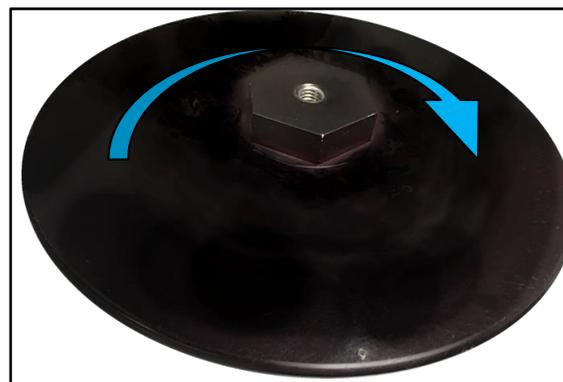

Figure 2-26. VariStroke Cover Installation
47. Install the VariStroke cover and torque to **100 ±10 LBFT (135 ±13.5 Nm)** using a **2 1/4 in** open end wrench (Figure 2-26).